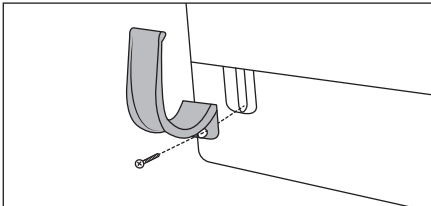

Fig. 1
- ◆ Screw the hose holder **16** onto the appliance (see Fig 1).